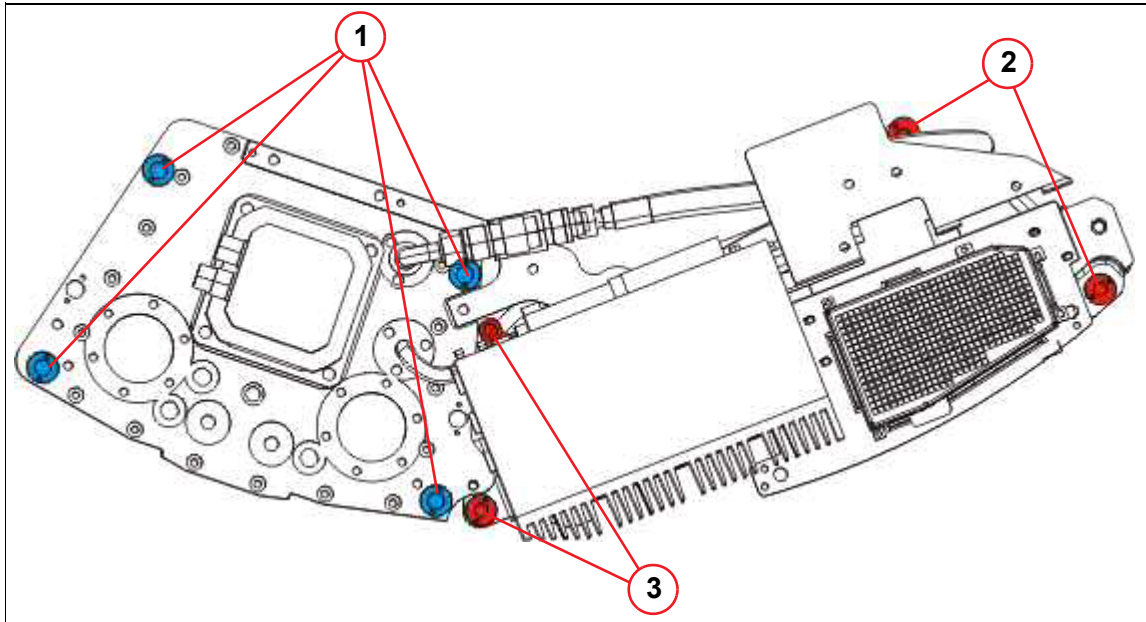

Fig. 38: Straton Tube assembly
- After the tube is in place, loosely install the upper left (M10x65mm) and upper right (M10x40mm) new bolts to prevent the tube from coming off the locating pins. Lower the table until the contact points (item 1 near lower center bolt, item 2 near the lower right bolt) of the STRATON tube assembly are touching the gantry drum.
9. Install the 8 (remaining 6 for Sensation 40/64/Cardiac64/Open) new M10 hexagonal bolts (supplied). Make sure the longer bolts are installed in the correct position; refer to (Fig. 38 / p. 54).